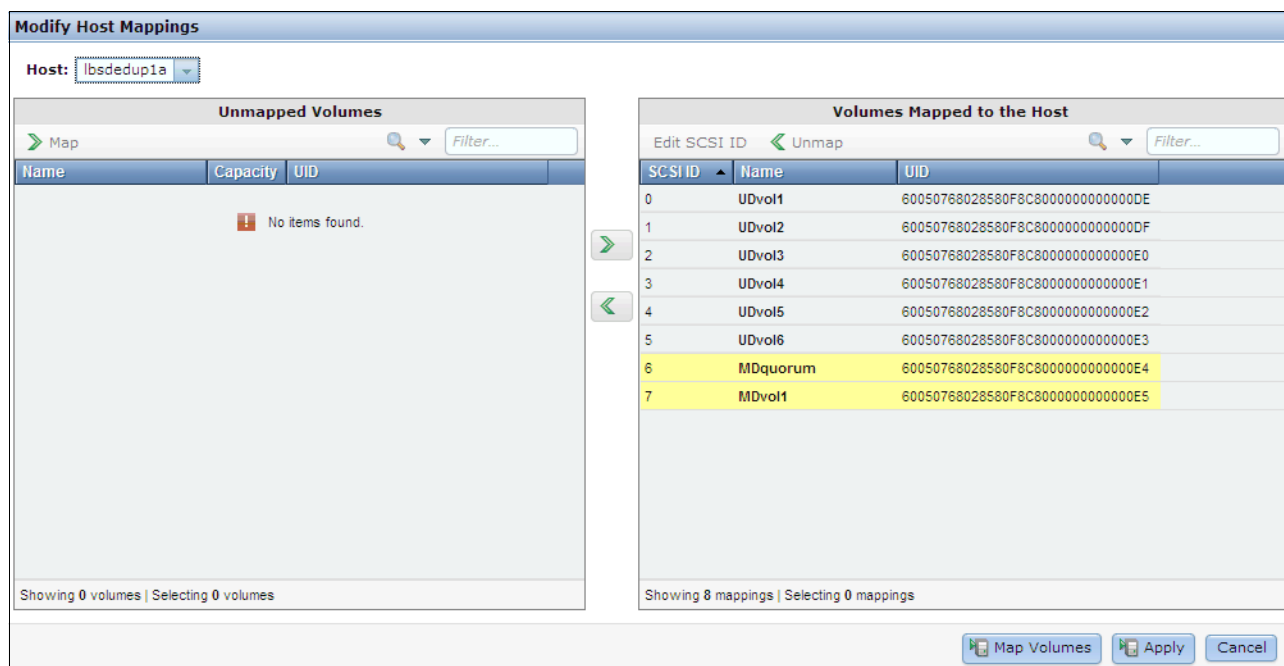

Figure 10-21 Modify mapping
3. The Modify Host Mapping window opens. Click the **Host** drop-down menu to select the name of the host that you want to map volumes to. If the volumes are not highlighted in yellow, select volumes from the Unmapped Volumes pane and click the arrow (>) to move the volumes to the Volumes Mapped to the Host pane. Click **Map Volumes** or **Apply** (Figure 10-21).